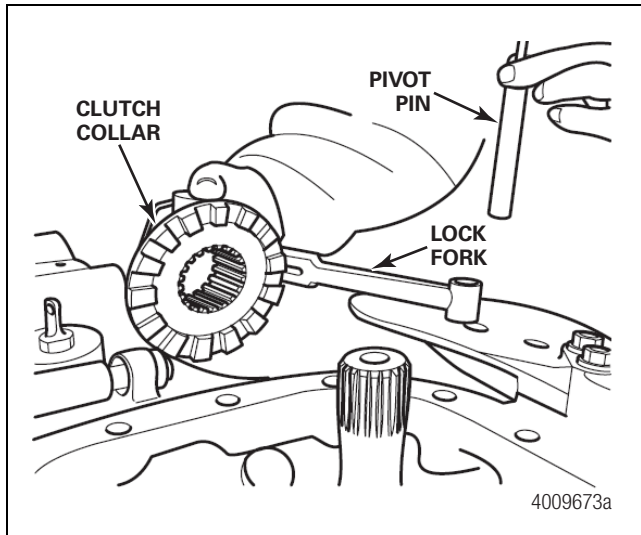

Figure 6.5
3. Remove the shift fork and clutch collar from the axle housing. Figure 6.5.